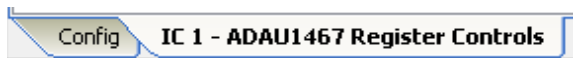

Figure 36. IC 1 - ADAU1467 Register Controls Tab
- a. Click the **Hardware Configuration** tab, then click the **IC 1 - ADAU1467 Register Controls** tab at the bottom of the window (see Figure 36).